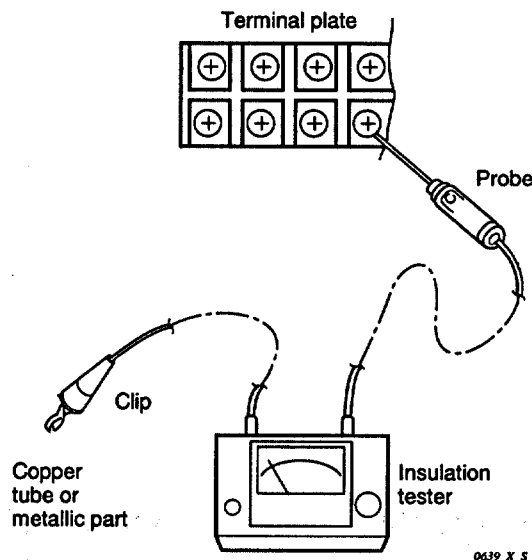

Fig. 7
Clamp an aluminum plate fin or copper tube with the lead clip of the insulation resistance tester and measure the resistance by placing a probe on the terminal plate (Fig. 7)
Measure the resistance by placing a probe on the terminal plate in the same manner as explained above ②. (Fig. 7)